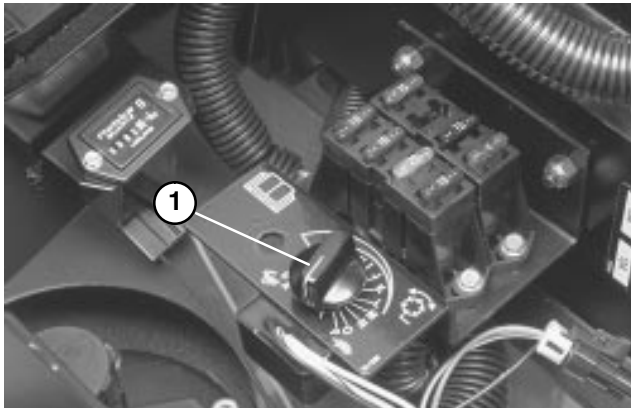

Figure 61
3. Open control cover and turn the H.O.C. selection knob to position "P" (Fig. 61).